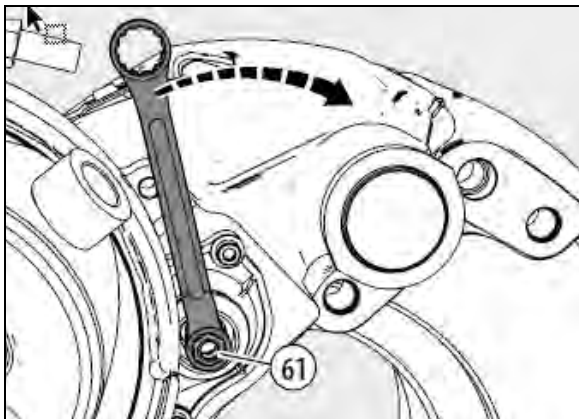

**FIGURE 43: TURN ADAPTER 3 CLICKS ANTICLOCKWISE**
14. Turn the adjuster with adapter (61) **3 clicks** anticlockwise (increasing the air gap) (see Figure 43).